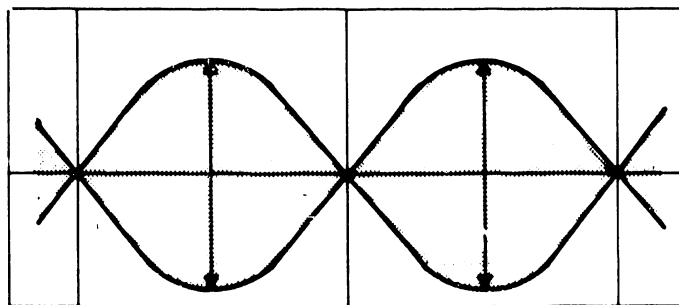

FIGURE 11
An alignment pattern as pictured in Figure 11 is recorded on alignment disk track 31. The oscilloscope should now display a signal envelope.
- 5) Compare amplitudes of two adjacent oscilloscope displayed lobes (Figure 11). They must be equal within 25% ( $3/4$  of a division). If they are, perform index alignment check (Section 5.3.2).
- 3) Rotate actuator housing until oscilloscope displays distinct lobe patterns, and then adjust housing radial position until two adjacent lobes are equal in amplitude. See Figure 11.
- 5) Prime, and then reaccess track 31, 258048 (1049072) for the right drive, 126976 (496) for the left drive.